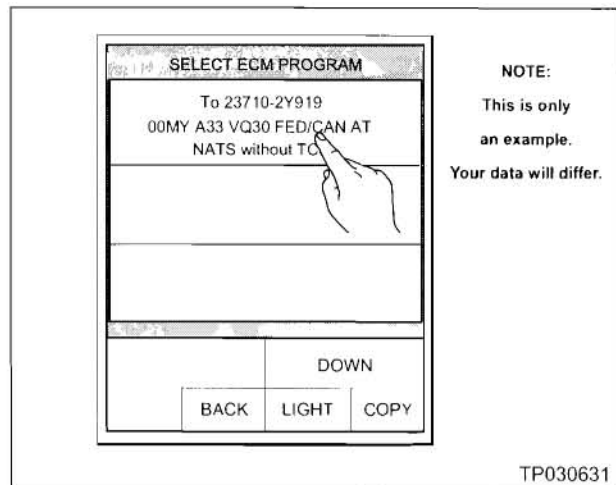

Figure A17
24. Select the ECM program to install (see Figure A17).